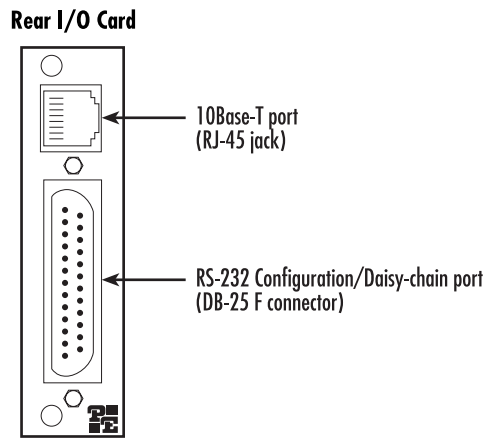

Figure 9. Rear I/O card ports
1. Installing the 10Base-T Ethernet cable onto the 10Base-T port (see figure 9) (see “Installing the Ethernet cable” on page 32).
2. Installing the cable onto the RS-232 configuration/daisy-chain port (see figure 9) (see “Installing the RS-232 configuration/daisy-chain port cable” on page 34).